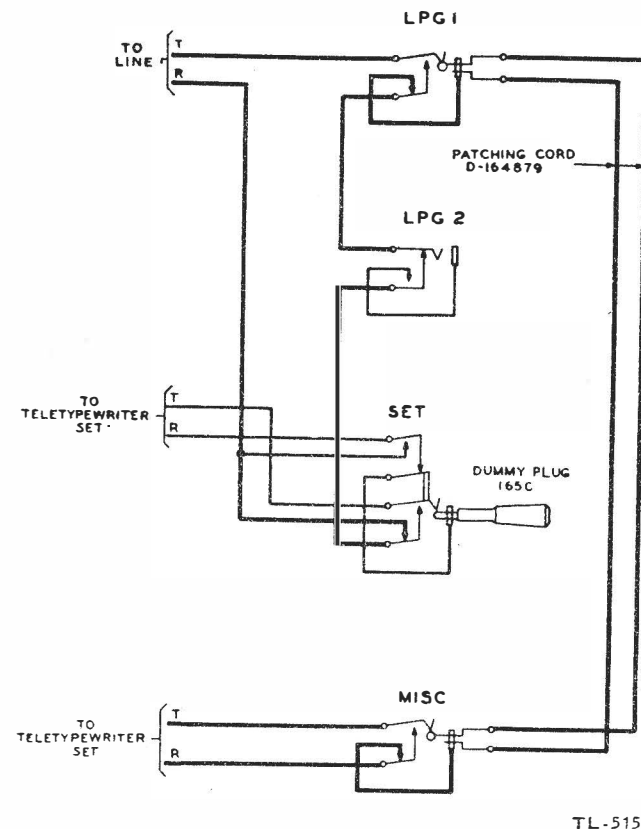

Figure 5. Patching cord, connection between a miscellaneous jack and a line circuit jack.
b. When it is desired to use an auxiliary set in place of one of the existing sets in use, insert one end of the patching cord into the MISC jack to which the auxiliary set is connected. Insert the other end of the patching cord into either the LPG1 or the LPG2 jack of the line to be used. Disconnect the existing set by inserting a dummy plug into the SET jack to which the set to be removed is connected. This type of connection is shown in figure 5.
c. When it is desired to add an auxiliary set in the local line loop or extension circuit in addition to the existing set in use, insert one end of the patching cord into the MISC jack to which the auxiliary set is connected. Insert the other end of the patching cord into either the LPG1 or the LPG2 jack of the line to which the set is to be added. This connection is the same as that shown in figure 5, with the omission of the dummy plug.